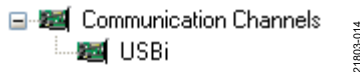

Figure 14. Adding a **USBi** Component From **Communication Channels**
4. Add a **USB Interface** block (the **USBi**) to the project by clicking **USBi** from the **Communication Channels** subsection of the **Tree ToolBox** (see Figure 14), and then dragging it to the project space.